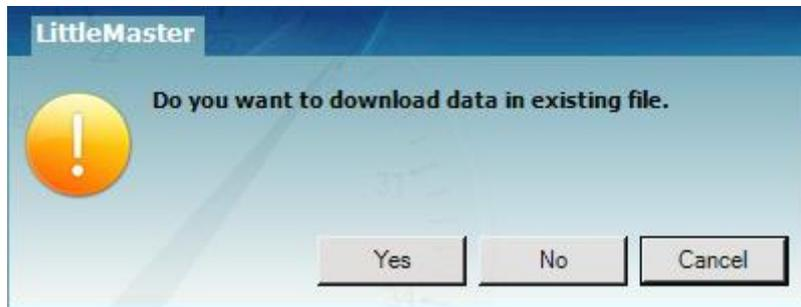

Figure 16 Option for downloading multiple device data in existing file
- Download the first device data and connect the second device to download the data, select option “Yes” in the message pop up as shown in figure 16 for downloading in existing file.